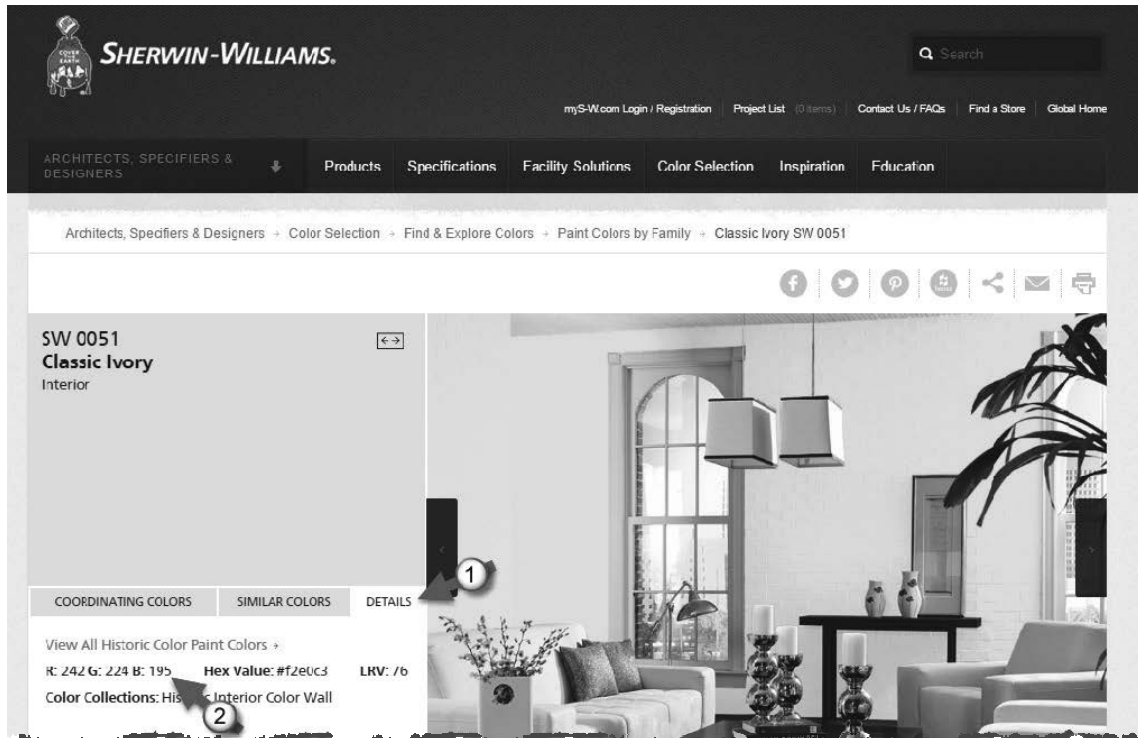

FIGURE 4-3.12 Sherwin Williams website
35. Click on the preview swatch for **Classic Ivory** and then click **Details** to see more information (Figure 4-3.12).
You should now see the information shown below (Figure 4-3.12). Notice the RGB Value listed: 242,224,195. These are the Red, Green and Blue colors which make up the Classic Ivory color. This information can be entered into the Revit material to create the proper color representation. Next you will create the PT1 *Material* in Revit.